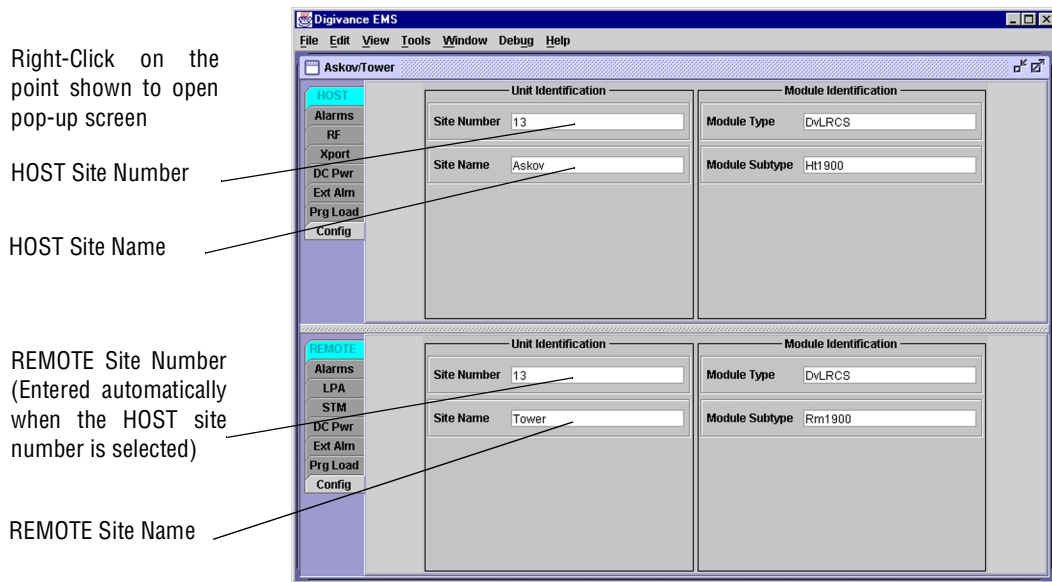
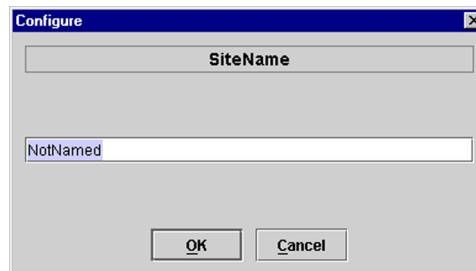

Figure 4-6. HOST and REMOTE Config Displays
Figure 4-7. HOST Site Name Pop-Up Screen
1. Click on the **HOST Config** tab and on the **REMOTE Config** tab. The **HOST Config** display and the **REMOTE Config** display will open within the EMS main window as shown in Figure 4-6.
2. Right-click on the **HOST Site Name** field (see Figure 4-6). The **Site Name** pop-up screen will open as shown in Figure 4-7. Enter a unique name for the HOST. The name may be up to 32 characters long and must not contain any spaces. The name may include numbers, punctuation, and upper or lower case letters and must always begin with a letter. Click on OK to close the screen and make the changes take effect.
3. Right-click on the **HOST Site Number** (see Figure 4-6). The **Site Number** pop-up screen will open. Enter any number between 1 and 24 and then click on OK to close the screen and make the changes take effect.
4. Check the **REMOTE Site Number** field (see Figure 4-6). The **REMOTE Site Number** does not have to be entered. When the **HOST Site Number** is entered, the system will automatically enter the same number for the **REMOTE Site Number**.
5. Right-click on the **REMOTE Site Name** field (see Figure 4-6). The **Site Name** pop-up screen will open. Enter a unique name for the **REMOTE**. The name may be up to 32 characters long and must not contain any spaces. The name may include numbers, punctuation, and upper or lower case letters and must always begin with a letter. Click on OK to close the screen and make the changes take effect.